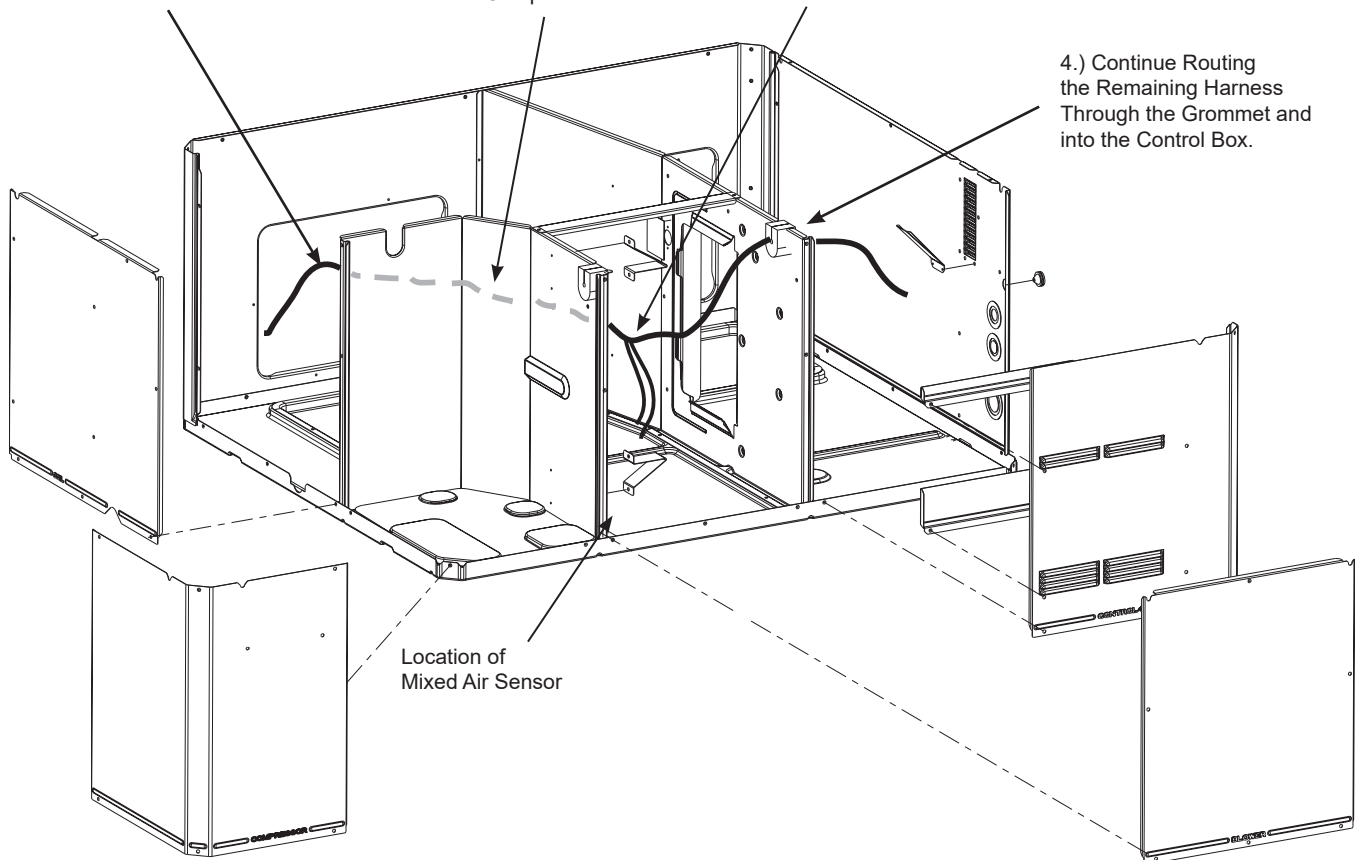

Figure 10. Main Wire Harness Routing
1. Mount the Mixed Air sensor (with wiring) to the left Blower partition using two sheetmetal screws. See Figure 10. The male tabs on the two (2) yellow wires will connect to the Economizer wiring harness in a later step.
1. From the Economizer assembly, pass the wire harness through the coil grommet. See Figure 10 (view A). Continue routing the harness behind the Compressor compartment and into the Blower compartment.